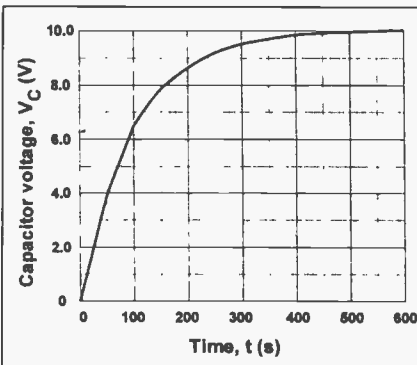
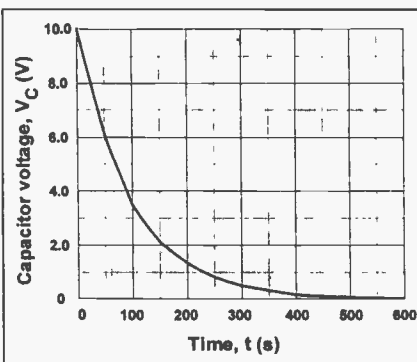

Fig. 2.6 Capacitor voltage plotted against time (charge).
Fig. 2.7 Capacitor voltage plotted against time (discharge).
- Use the results from Tables 2.1 and 2.2 to plot graphs showing potential difference plotted against time for charge and discharge respectively. Note that the time axis values for the discharge graph are found by subtracting 600 (the point at which you initiated the discharge cycle) from each clock reading. Your graphs should look like those shown in Fig. 2.6 and Fig. 2.7.